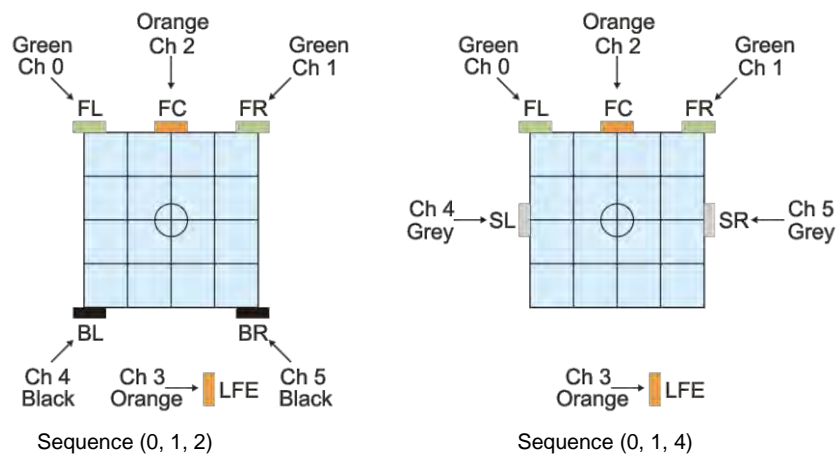

Figure 4.23 5.1 Surround Sequences for a Multi-channel Association
When used together in a single association, the set of sequence numbers (0, 1, 2) defines a 6-speaker configuration as shown on the left side of Figure 4.23, with speakers located at the Front Left (FL), Front Right (FR), Front Center (FC), Low Frequency Effects (LFE), Back Left (BL), and Back Right (BR) positions.
Similarly, sequence numbers (0, 1, 4) represent a 6-speaker configuration with speakers located at the FL, FR, FC, LFE, Side Left (SL), and Side Right (SR) positions, as shown on the right side of Figure 4.23.
The Speaker Configuration control panel in Windows does not distinguish between the two 5.1 speaker configurations shown in Figure 4.23, which differ only in whether BL and BR speakers are used in place of SL and SR speakers. The control panel uses the label *5.1 surround sound speakers* to identify either configuration. The reason for not distinguishing between the back-speaker and side-speaker configurations in the control panel is that most listeners don't distinguish between these speaker positions, so having two different settings doesn't make a lot of sense.